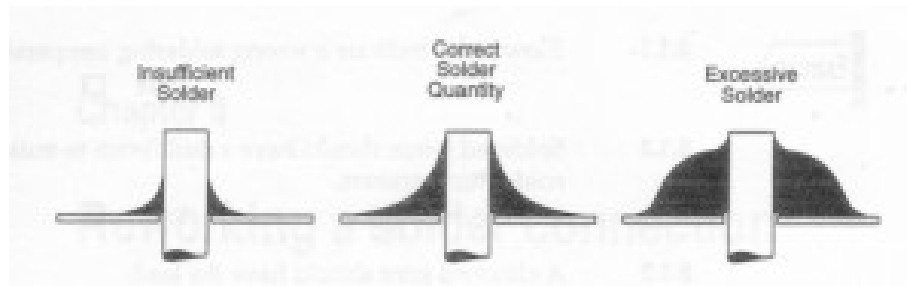

Fig. C4 - Solder quantity comparison
6. Allow the joint to cool and visually inspect for defects or other problems. You should have a solder joint with a bright shiny finish and a profile like that shown in Fig. C4.